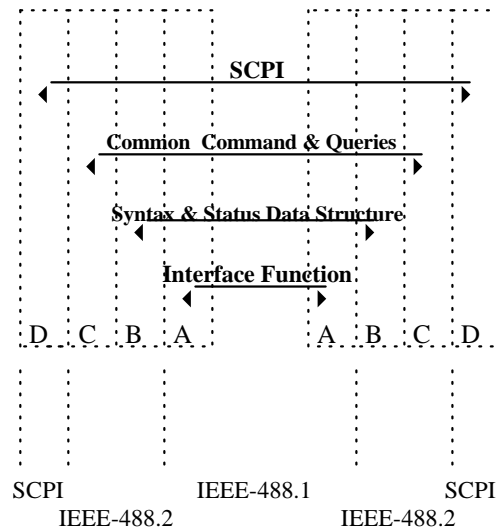

Figure 3-1: the relationship between IEEE-488.1, IEEE-488.2, and SCPI.
As shown in the figure 3-1, the IEEE-488.1 standard locates at layer A, the layer A is belonged to the protocol of interface function on the GPIB bus. The source handshake (SH), acceptor handshake (AH) and talker are included in this layer (10 interface functions totally).